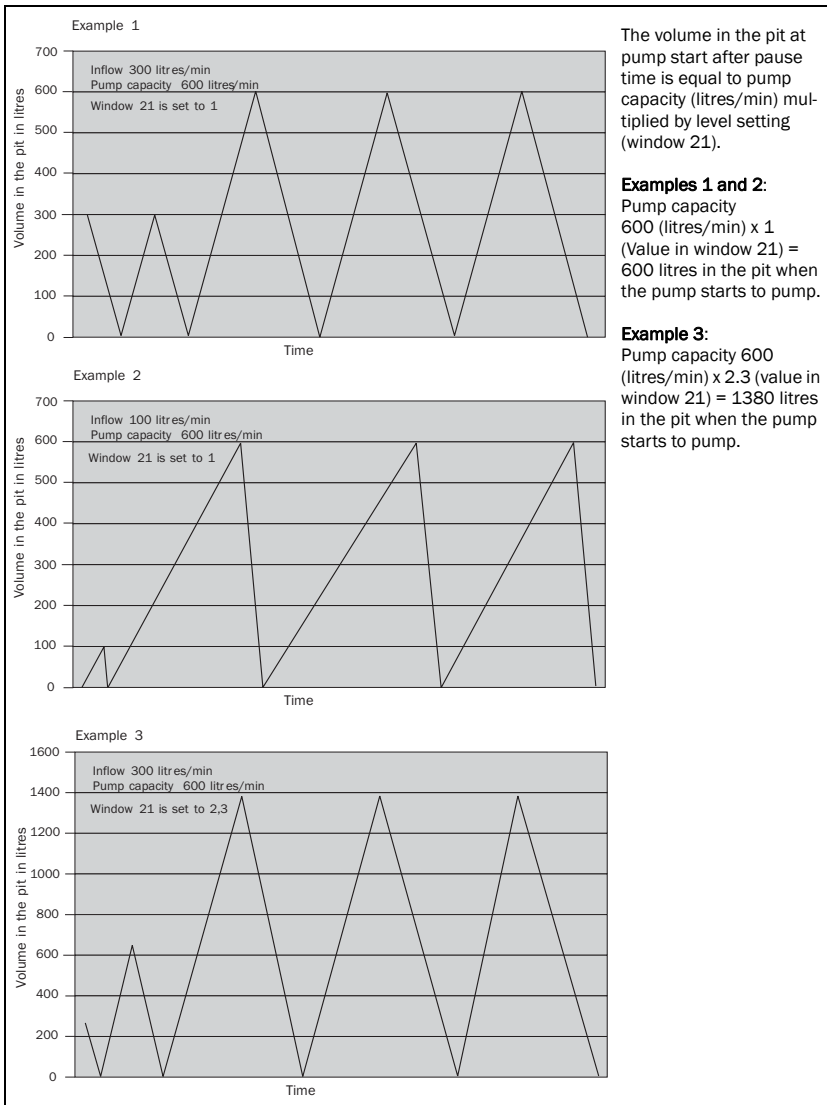

Fig. 11 Pump cycle example with different level settings in window 21
16. Change the level setting in window 21 between 1-10 for shorter or longer pump cycles and levels in the pit. A low value gives shorter pump cycles and lower level in the pit. See Fig. 11 and 14.
pause time (window 22). The parameters can be adjusted to achieve desired magnitudes of pause times, start level and number of starts per hour. See Fig. 11, page 23, and 14, page 32.
The level setting is best adjusted after a few pumping cycles in order to adjust the pause time, and hence the start level in the pit. See schematic pump cycle example in Fig. 11 and 14.